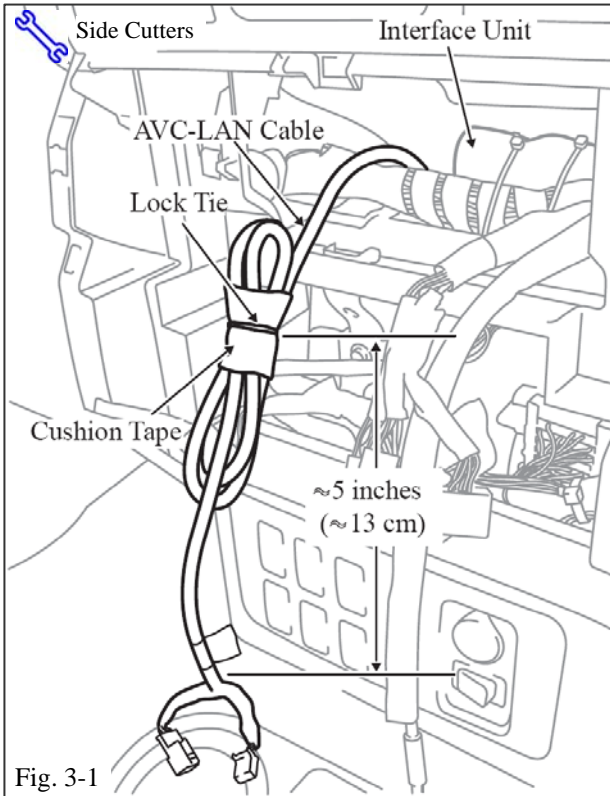

Fig. 3-1
- (a) Bundle the excess AVC-LAN cable and secure with cushion tape and one (1) 14" lock tie. (Fig. 3-1)